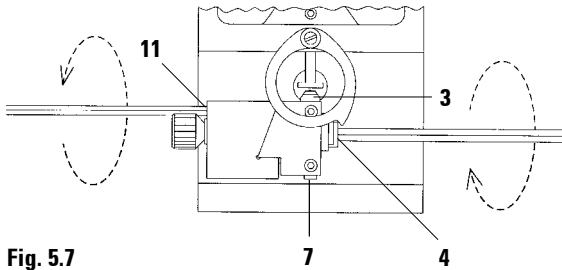

Fig. 5.7
- Insert the size-5 Allen key into regulating screw (4) insert size-2.5 Allen key into regulating screw (11) (Fig. 5.7).
The arrows in Fig. 5.7 indicate clockwise sense of rotation.